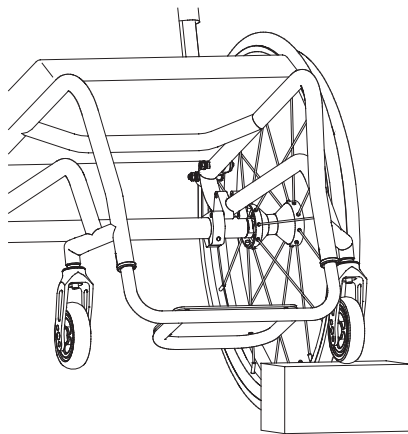

Figure 116
11. Place a wood block under the other caster wheel (which is not floating) as shown in Figure 116.